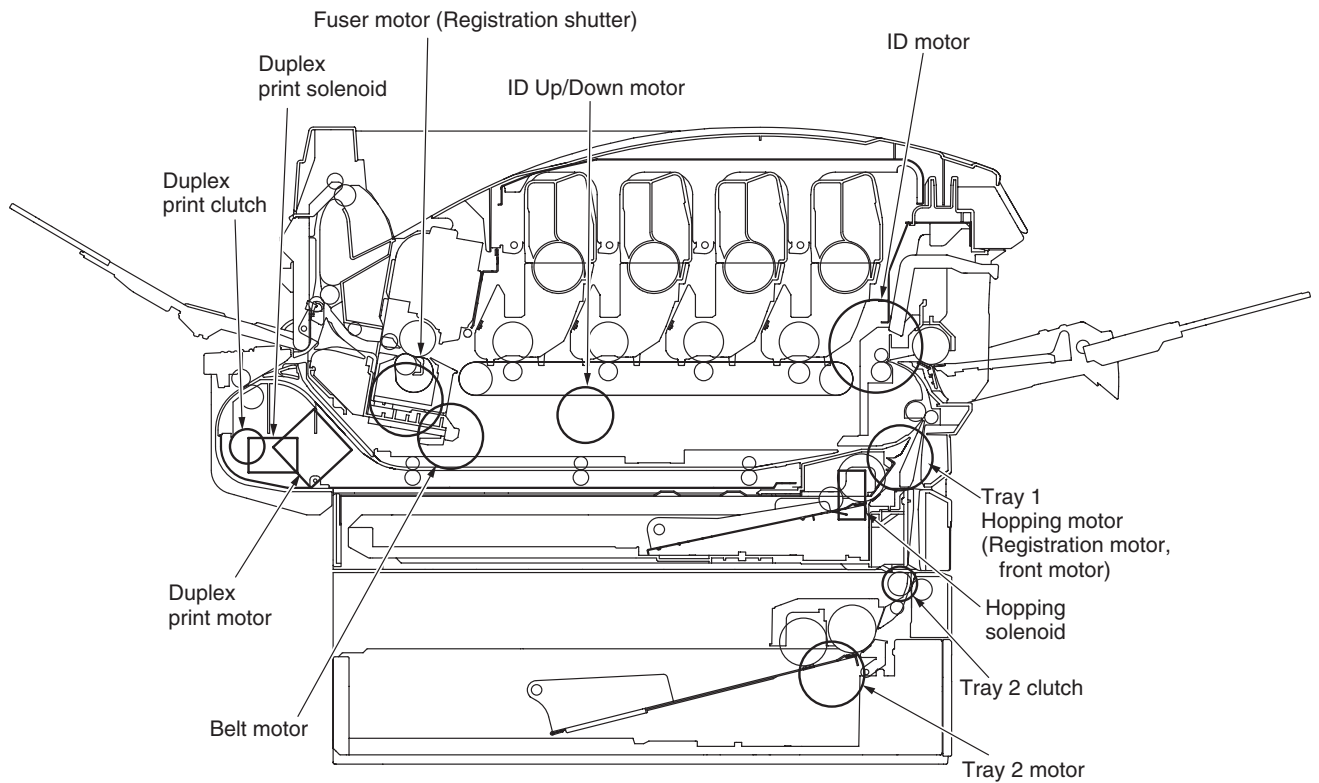

Figure 6-2
3. Pressing the ENTER key initiates the test, causing the unit name to start blinking, and the corresponding unit is driven for ten seconds (See Figure 6-2).